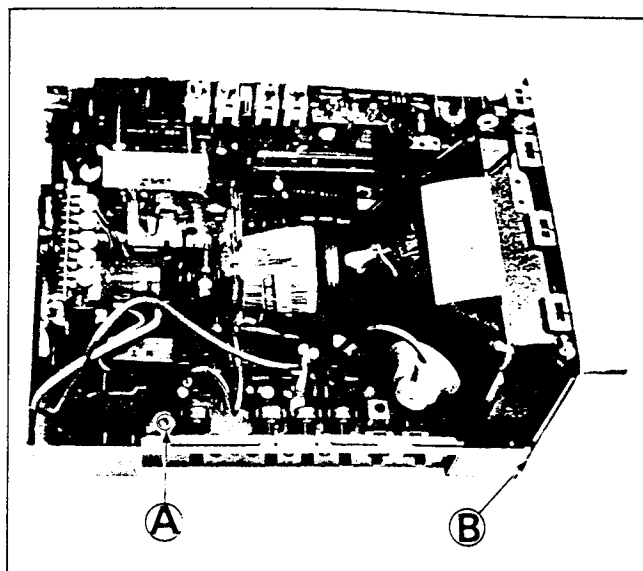
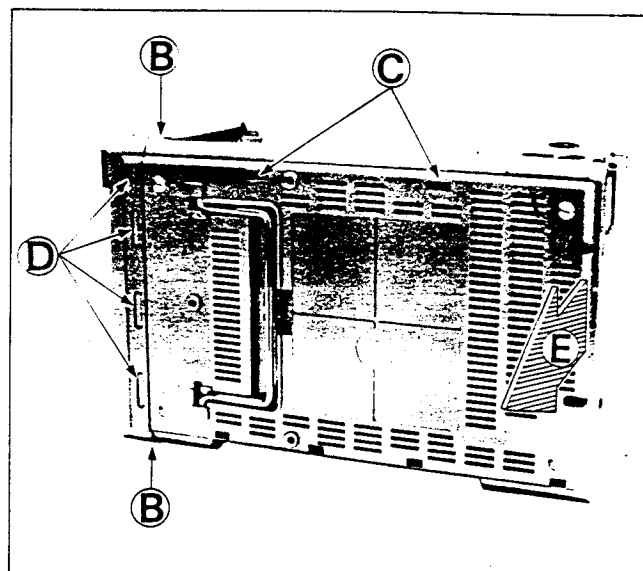

Fig. 5-3
Fig. 5-4
1. Remove the one screw (A) in Fig. 5-3.
2. Pressing the locks points (B) and (C) in Fig. 5-3 & Fig. 5-4 and then remove the P.C. board from the bottom cover.
3. Draw the bottom cover to the arrow direction (E) while pressing the locked points (D) in Fig. 5-4.